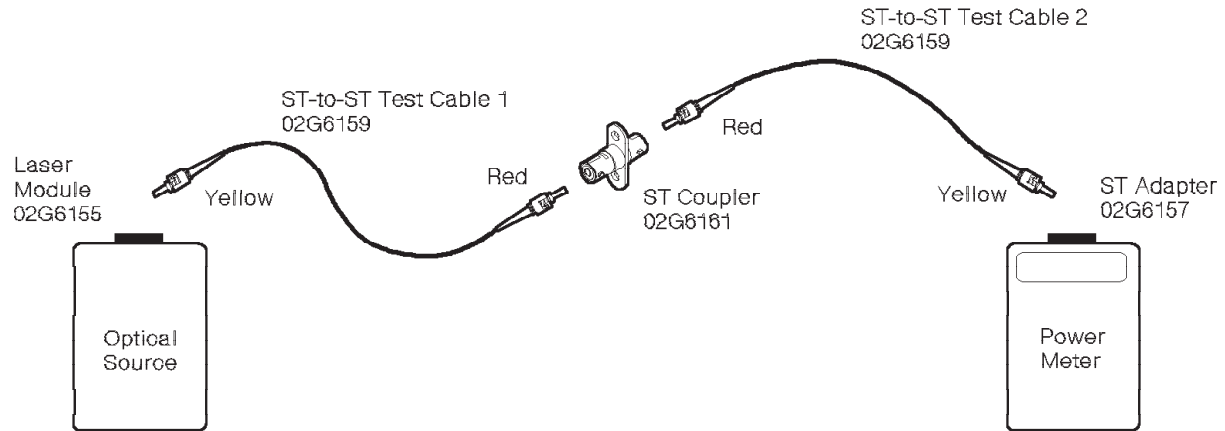

Figure 3-17. Obtaining **P1** for a Single-Mode Link
3. Make sure all connectors are clean; then assemble the test equipment (see Figure 3-17 on page 3-39).